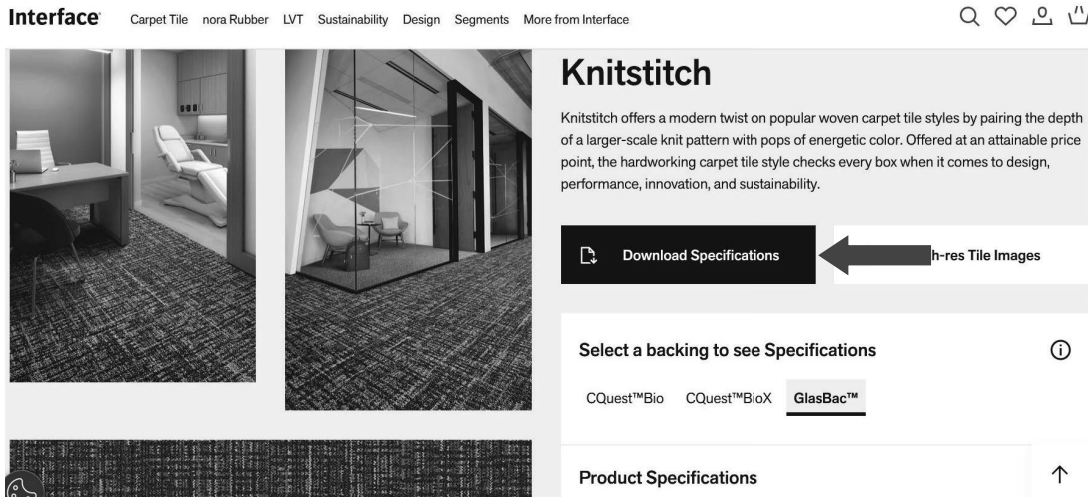

FIGURE 4-3.6 Interface website - specific product page
You now have access to all the information you need to define the Revit *Material* (Figure 4-3.6).
17. Near the bottom of the image, click **Download Specifications** (Figure 4-3.6).